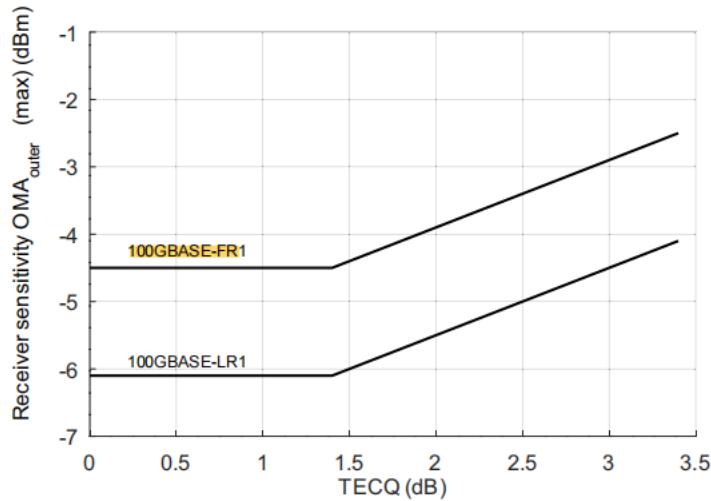

Figure 5. Illustration of Receiver Sensitivity Mask for 100GBASE-FR1
2. The values for OMAouter (min) vary with TDECQ. Figure 5 illustrates this along with the values for OMAouter(max).
5. Receiver sensitivity (OMAouter) is informative and is defined for a transmitter with a value of SECQ up to 3.4 dB. Receiver sensitivity should meet Equation (1), which is illustrated in Figure 5.